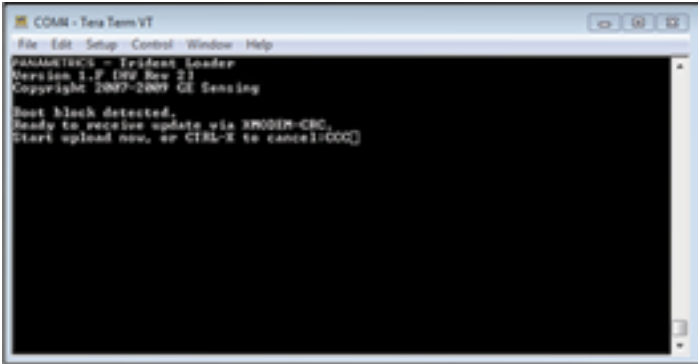

Figure 78: Tera Term indicates meter ready to receive update
- 5. In the Tera Term terminal window (see Figure 78 on page 80), select file, transfer, XMODEM, and send in the subsequent drop-down menus.